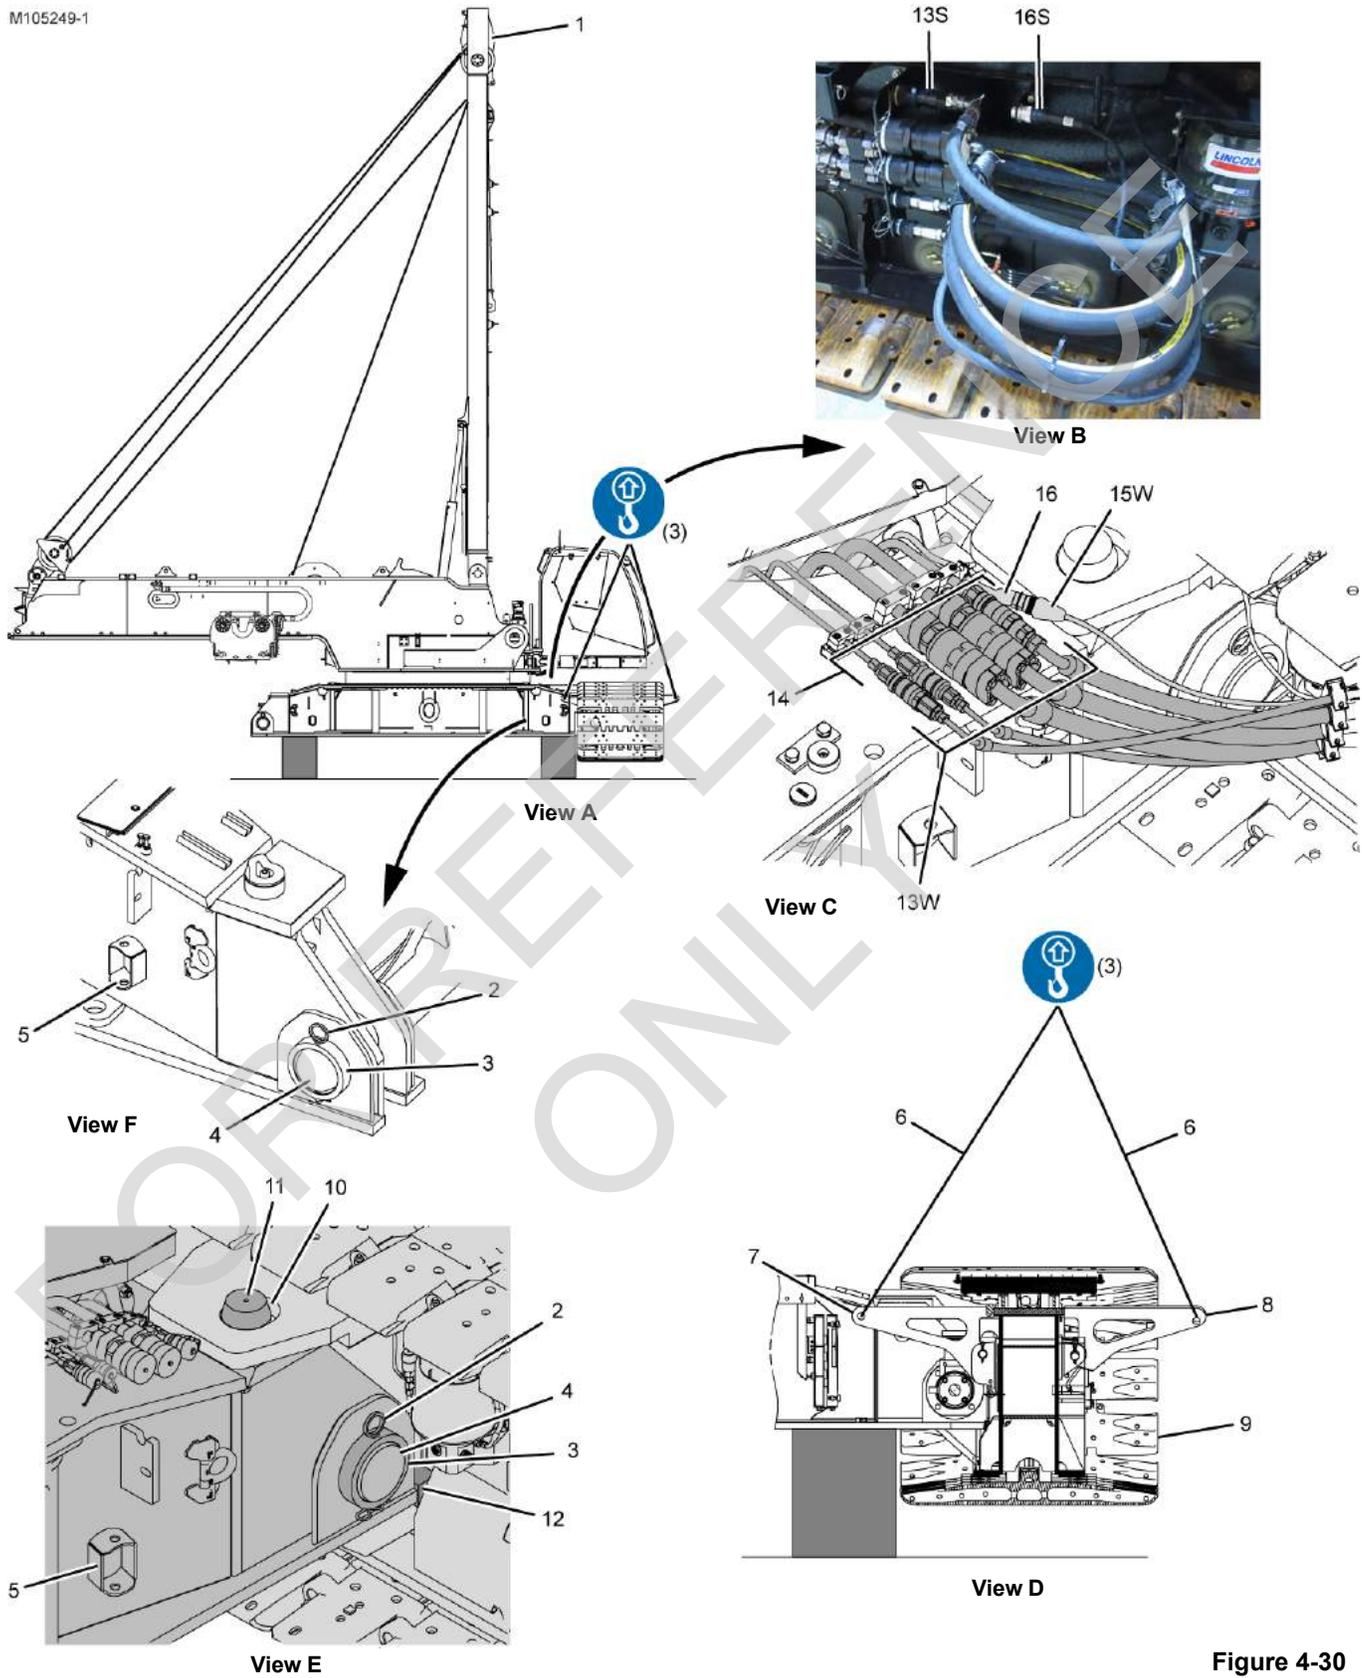

Figure 4-30
Legend for Figure 4-30
See Figure 4-30 for the following procedure.
16. Slacken the lifting slings and remove the extra shackle from the inboard lifting link (7, View D, Figure 4-30 on page 4-44).
3. Slacken the lifting slings and remove the extra shackle from the inboard lifting link (7, View C, Figure 4-30 on page 4-44).